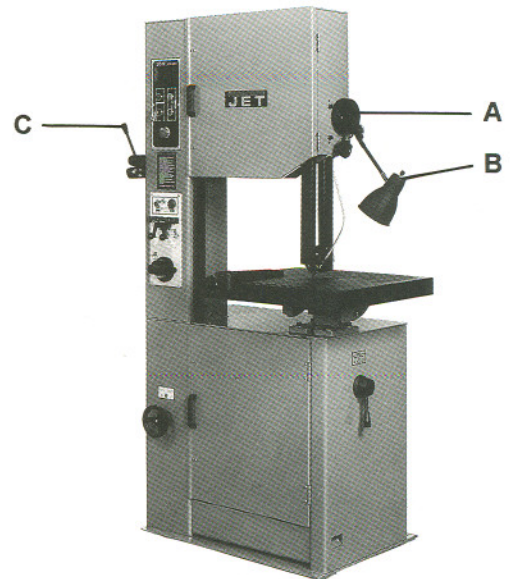

Fig. 3
**Upper Blade Guide Handwheel (A, Fig. 3)** - located on the upper right side of the saw. Turn clockwise to raise the blade guide assembly. Turn counter-clockwise to lower.
**Work Lamp Switch (B, Fig. 3)** - on top of lamp shade; turns lamp on and off.
**Shear Lever (C, Fig. 3)** - located on upper column. UP position allows insertion of blade end into shear. Pull lever DOWN to cut blade.